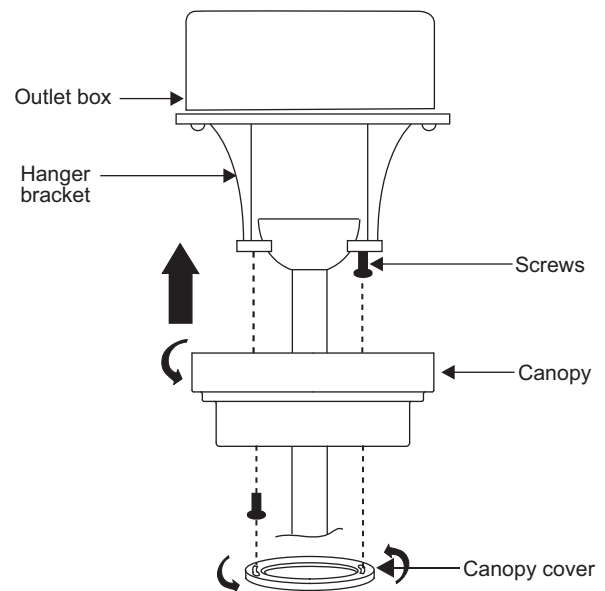

Figure 15
**Note:** Adjust the canopy screws as necessary until the canopy and canopy cover are snug. (Fig.15)